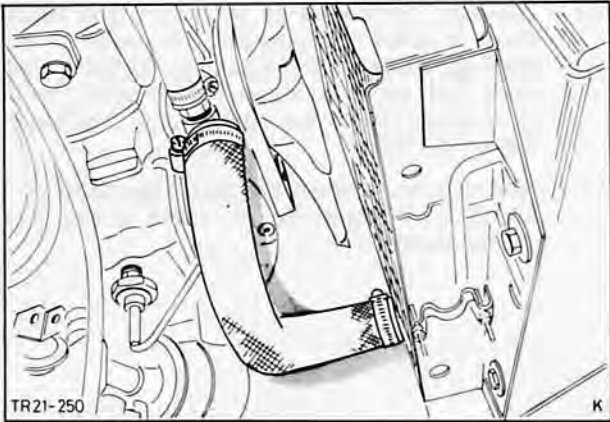

Fig. 133. Connect hose to radiator
17. Connect radiator hoses, Fig. 133, and top up with coolant. Connect earth strap to battery.